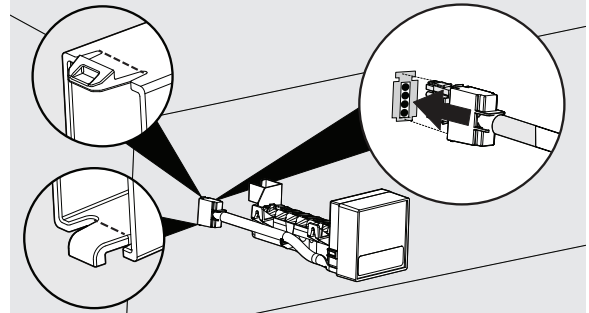
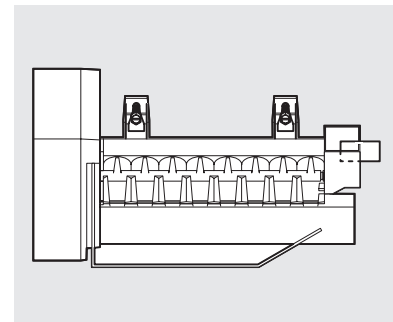

Figure 9
Figure 10
13. Connect the wiring harness into the connector mounted on the back freezer panel, just to the left of where the water inlet tube comes through. The harness connector is keyed so it will only fit one way. Next, slide the Ice Maker connector cover over the connector (see Figure 9--snap on top, hook on bottom). The Ice maker connector cover can then be snapped into place into the back panel or slid up tight to the back panel depending on which version of back panel you have (see note below). Then, mount the Ice Maker to the 2 mounting screws you inserted earlier from Step 12. (See figure 10.) Tighten the screws. Make sure the water inlet tube is sitting inside the fill cup.